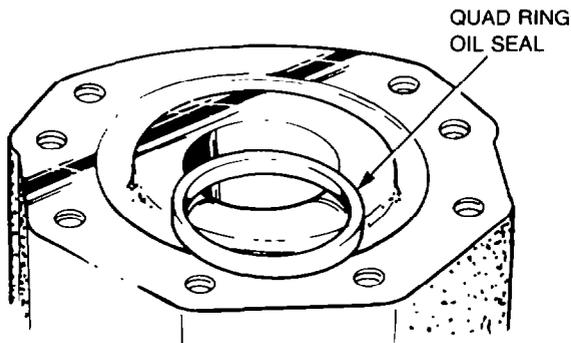

Figure 303 — Quad Ring Oil Seal — Removal
- i. Remove the Quad ring oil seal from the gear housing and discard the seal (see Fig. 303).